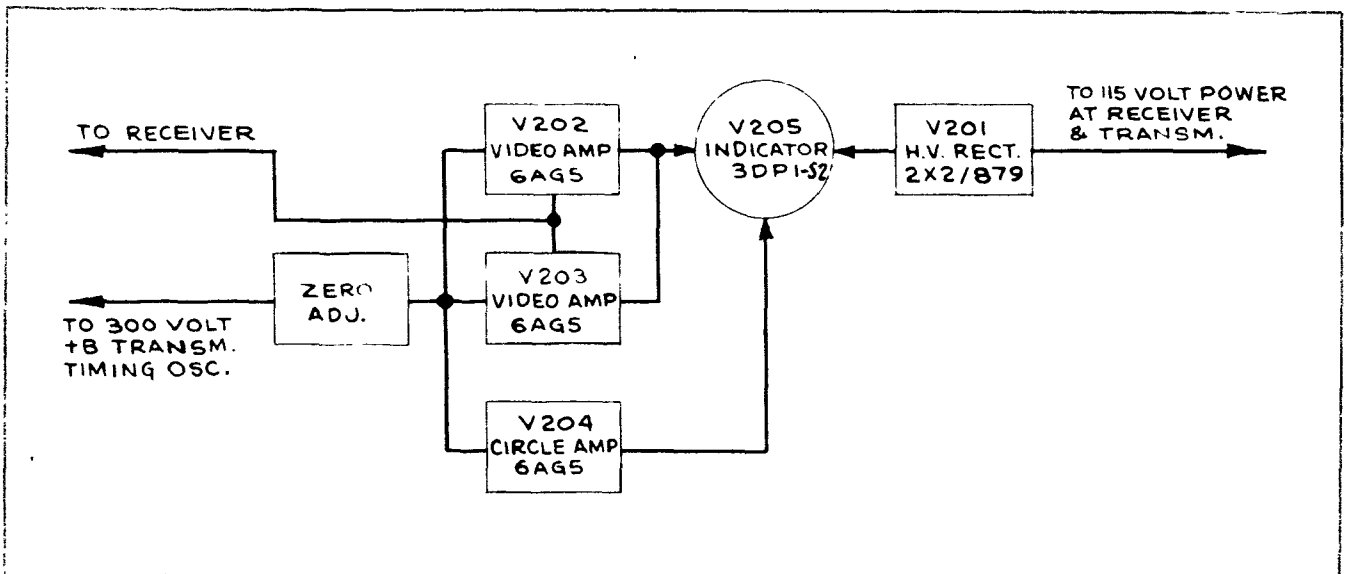

Figure 4-6. Indicator I-152-A — Functional Block Diagram
a. The cathode output of the detector (tube V109) in the receiver section of the radio receiver and transmitter is at a relatively low level and must be amplified before it is of sufficient amplitude to actuate the radial electrode of the cathode-ray indicator (tube V205). This is accomplished by operating the video amplifiers (tubes V202 and V203) in parallel. (See fig. 4-6.) The frequency characteristics of this stage are determined by resistors R217 and R218, inductance L204, and the associated circuit capacities. (See fig. 8-14, 8-16, 8-18). This network is designed to give sharp indications on the indicator tube when a signal is received.